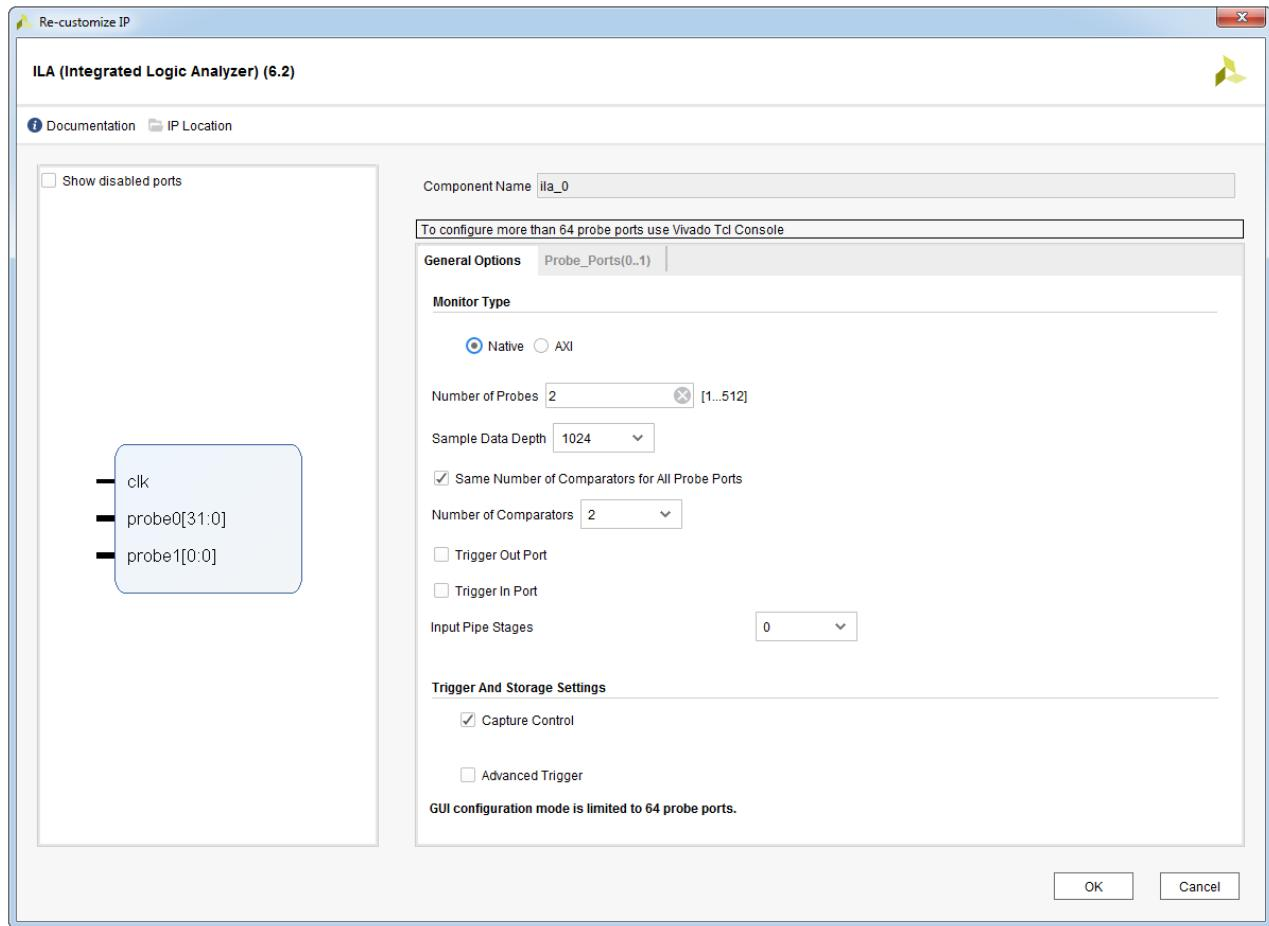

Figure 12.57: ILA (Integrated Logic Analyzer (6.2)) Re-customize IP dialog box - General Options
- enable **Capture Control** option in the **Trigger And Storage Settings** section, as it is shown on the Figure 12.57.